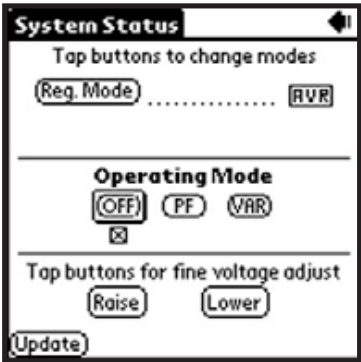

Figure 6-23. System Status With Operating Mode Screen
If the Var/PF option is installed, the Systems Status Screen may be different than that of Figure 6-22. This is illustrated in Figure 6-23, System Status With Operating Mode Screen. The Operating Mode segment of the System Status Screen (Figure 6-23) has three buttons labeled OFF, PF and VAR. A box around the Operating Mode's OFF, PF and VAR buttons indicates which mode is selected. A checked box below the buttons indicate which of the three modes the DVR®2000E is currently operating in. The figure also shows that the selected operating mode is VAR while the DVR®2000E is operating in OFF (AVR mode). Tapping the PF button places the DVR®2000E in the power factor operating mode and causes a checked box () to appear below the PF button. Tapping the VAR button places the DVR®2000E(C) in the VAR operating mode and causes a checked box to appear below the VAR button. Tapping the OFF button disables both power factor and var regulation and places a checked box below the OFF button. The example of Figure 6-23 shows that power factor and var regulation are disabled.